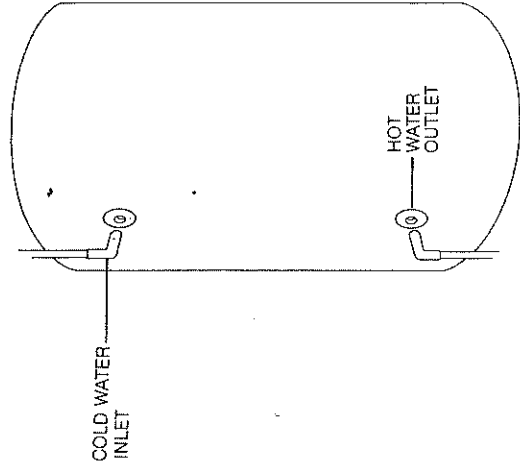

FIG. 1
4. Remove the cold water inlet and the hot water outlet from the water heater body. See figure 1.